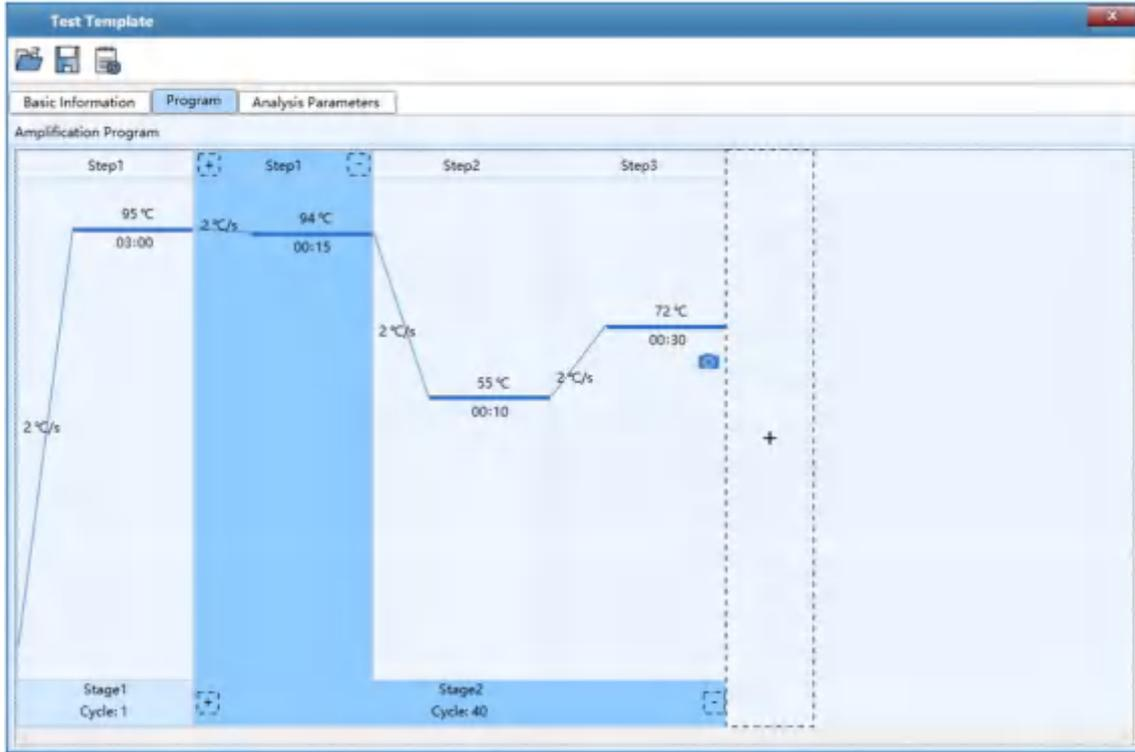

Figure D-2.5b Research Report interface – Program
- ▶ **Program** tab: is as shown in figure D-2.5b.